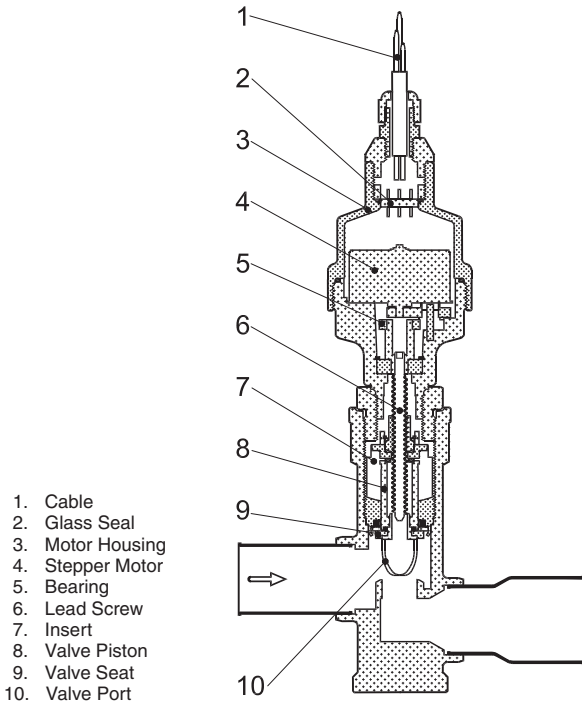

Fig. 26 — Cutaway View of the Electronic Expansion Valve
See Fig. 26 for a cutaway view of the EXV. High-pressure liquid refrigerant enters valve through the top. As refrigerant passes through the orifice, pressure drops and refrigerant changes to a 2-phase condition (liquid and vapor). The electronic expansion valve operates through an electronically controlled activation of a stepper motor. The stepper motor stays in position, unless power pulses initiate the two discrete sets of motor stator windings for rotation in either direction. The direction depends on the phase relationship of the power pulses.
3. The expansion valve motor is hermetically sealed inside the top portion of the valve. See Fig. 26. Carefully unscrew the 1¹/₁₆ in. (27 mm) retaining nut securing the motor portion to the body of the valve making sure the EXV plug is still connected. The EXV operator will come out with the motor portion of the device.
4. Enter the appropriate EXV test step under the (*Service Test* \rightarrow *QUIC*) sub-mode in the Service Test mode. Locate the desired item *Service Test* \rightarrow *QUIC* \rightarrow *EXV.A*, *Service Test* \rightarrow *QUIC* \rightarrow *EXV.B*, or *Service Test* \rightarrow *QUIC* \rightarrow *EXV.C*. Press **ENTER** twice to make the valve position of 0% flash. Press and hold \blacktriangle until 100% is displayed and press **ENTER**. Observe the operation of the lead screw. See Fig. 26. The motor should be turning, raising the operator closer to the motor. Motor actuator movement should be smooth and uniform from fully closed to fully open